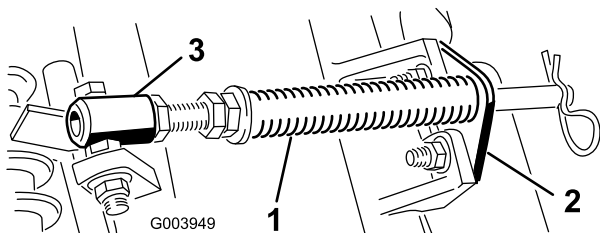

Figure 5
- A. Remove the 2 carriage bolts and nuts securing the rod bracket to the cutting unit tabs (Figure 5).
- B. Remove the flange nut securing the spring tube capscrew to the carrier frame tab (Figure 5). Remove the assembly.